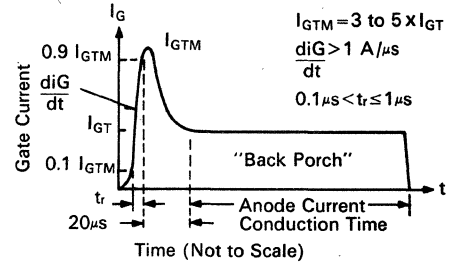
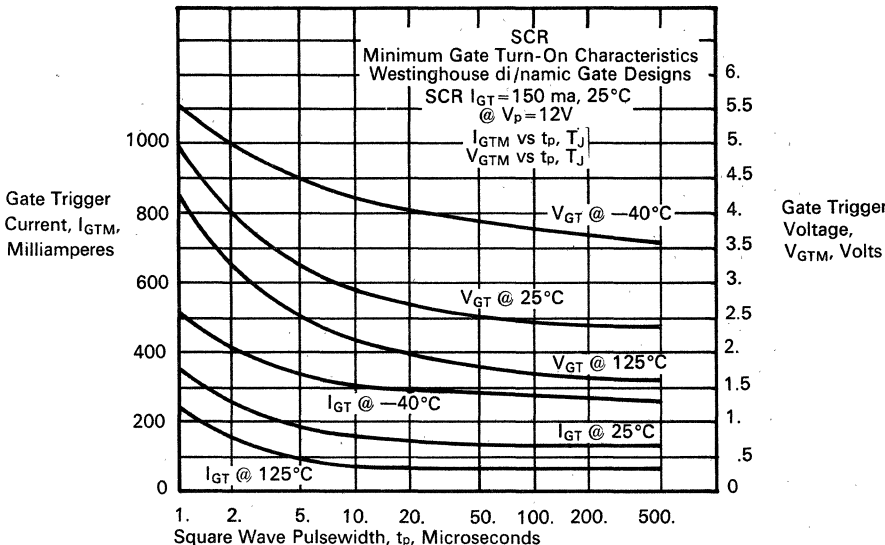

Figure 6. Hard Gate Drive.
Figure 5. Minimum Pulsed Gate Trigger Requirements.
To relate the measured value of dc gate trigger current to pulsed gate operation required in some applications, the following information is needed and is shown in Figure 5. Whether the SCR design is a conventional center fire gate, di/namic gate, or other, it is necessary to increase the gate drive amplitude for pulse widths less than 20 microseconds. This is due to the charge turn-
Demanding applications where hard gate drive is suggested include inverter and chopper circuits of capacitive type loads where high repetitive di/dt is evident; heavy industrial phase control operation with inductive load (or power factor control) and systems where electrical noise is troublesome requiring noise-immune thyristors and gate signal suppression circuitry (up to  $I_{GT}$ ). Figure 6 is the suggested Hard Gate Drive for an individual SCR. The cases of anode current conduction interval  $\leq 20 \mu s$  or picket fence gate firing are not shown. Reference must be made to the Minimum Pulsed Gate Trigger Requirements (Figure 5) to obtain the proper value of  $I_{GT}$ . This value of  $I_{GT}$  is then used for the Hard Gate Drive  $I_{GTM}$  determination.
- To minimize  $\Delta$  delay time variations between SCR's, use hard gate drive with as high a gate current risetime ( $di_G/dt$ ) as possible; ref. Figure 6.